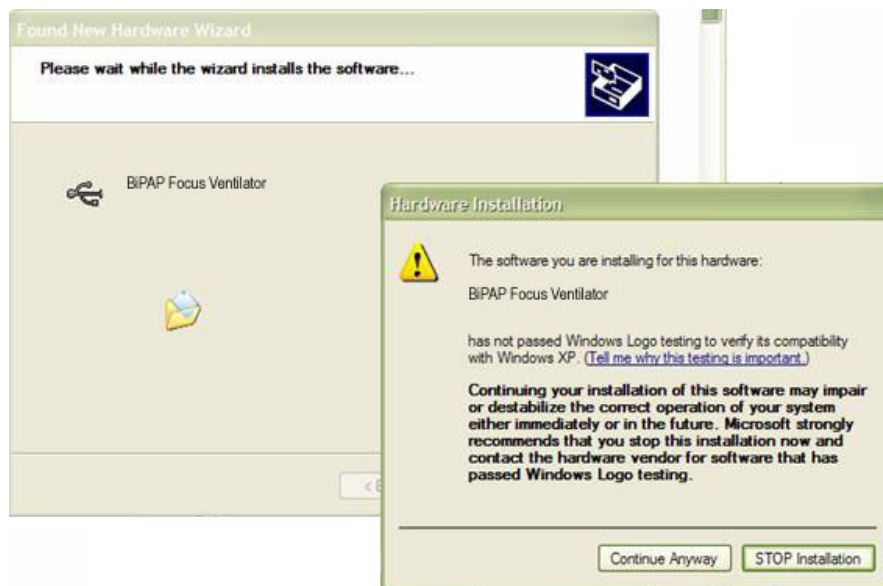

Figure 6-3: New Hardware Wizard - Windows XP Warning
5. The software begins installing software on the PC. If the Windows XP compatibility warning appears click **Continue Anyway**. Refer to Figure 6-3.